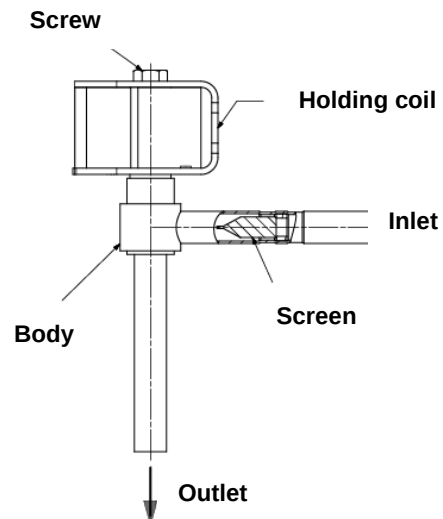

Figure 13: Control valve with coil
- The valve body contains a small filter mesh, to avoid large particles entering the inside (see **Figure 13**), which could lead to a defect and blockage. The filter is part of the valve delivery and already crimped inside; it cannot be changed. This is different from previous valve body versions, where the filter was delivered loose to the valve body and could be exchanged.